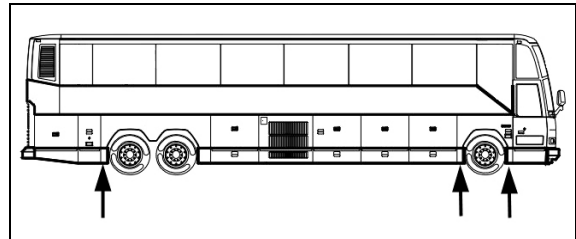

FIGURE 3: JACKING POINTS ON FRAME
1. Raise vehicle by its jacking points on the body (fig. 3 or see Section 18, "BODY" under heading "VEHICLE JACKING POINTS"). Place jack stands under frame. Remove drive axle wheels (if required, refer to Section 13, "WHEELS, HUBS AND TIRES").